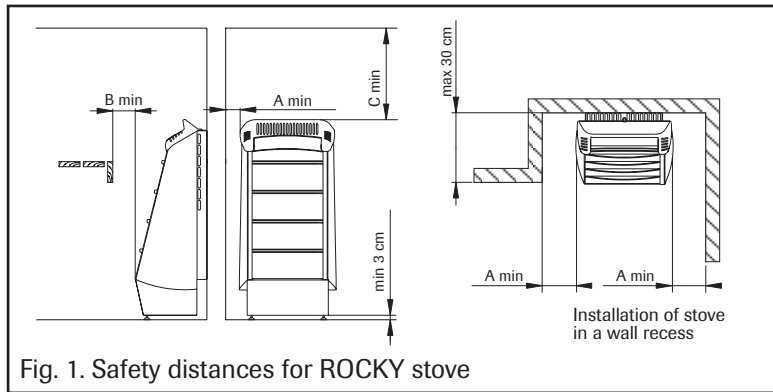

Fig. 1. Safety distances for ROCKY stove
**) See Fig. 1
- The stove can also be installed in a wall recess, cf. Fig. 1.